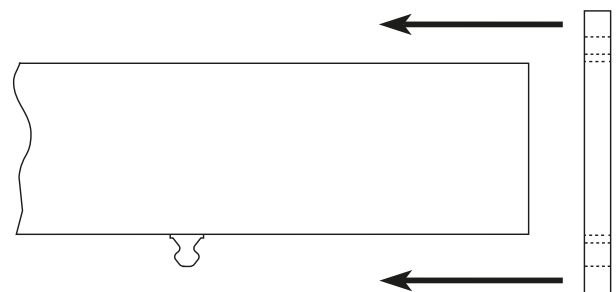

Figure 80: TRLAXLE Install Weld Mount Bracket on Cam Tube
3. Slide the cam tube mounting bracket onto the end of the cam tube assembly (Figure 80) until it contacts the Cam bracket L leg.